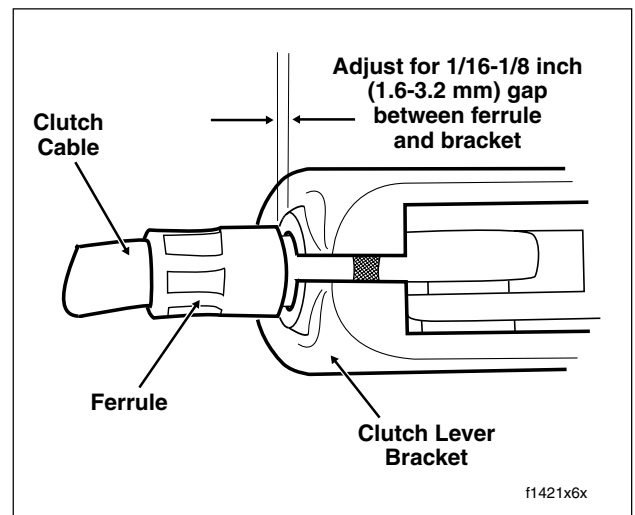

Figure 6-7. Adjust Clutch Free Play
7. Turn cable adjuster away from jam nut until slack is eliminated at hand lever. Pull clutch cable ferrule away from clutch lever bracket to check free play. Turn cable adjuster as necessary to obtain 1/16 to 1/8 inch (1.6-3.2 mm) free play between end of cable ferrule and clutch lever bracket, as shown in Figure 6-7.